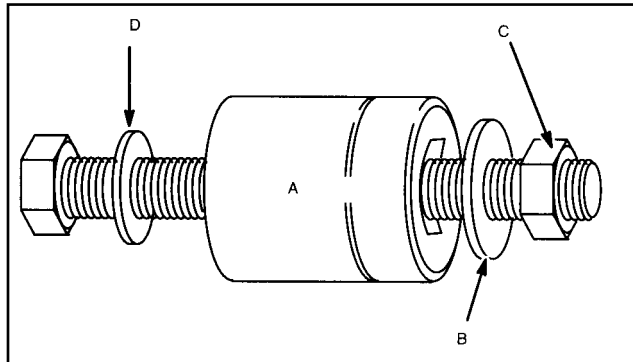

**Fig. 9 - Remove Governor Shaft**
4. Remove governor shaft from sump, Fig. 9.